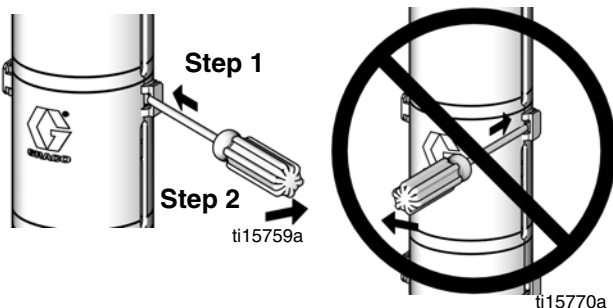

FIG. 3. Shield Disassembly
3. **Pumps with Sealed Lowers:** See FIG. 3. Remove the 2-piece shield (22) by inserting a screwdriver straight into the slot, and using it as a lever to release the tab. Repeat for all tabs. **Do not** use the screwdriver to pry the shields apart.
4. Loosen the coupling nut (3) and remove the collars (4). Remove the coupling nut from the piston rod (R). Unscrew the lock nuts (7) from the tie rods (6). Separate the motor (1) and lower (2). See FIG. 3.